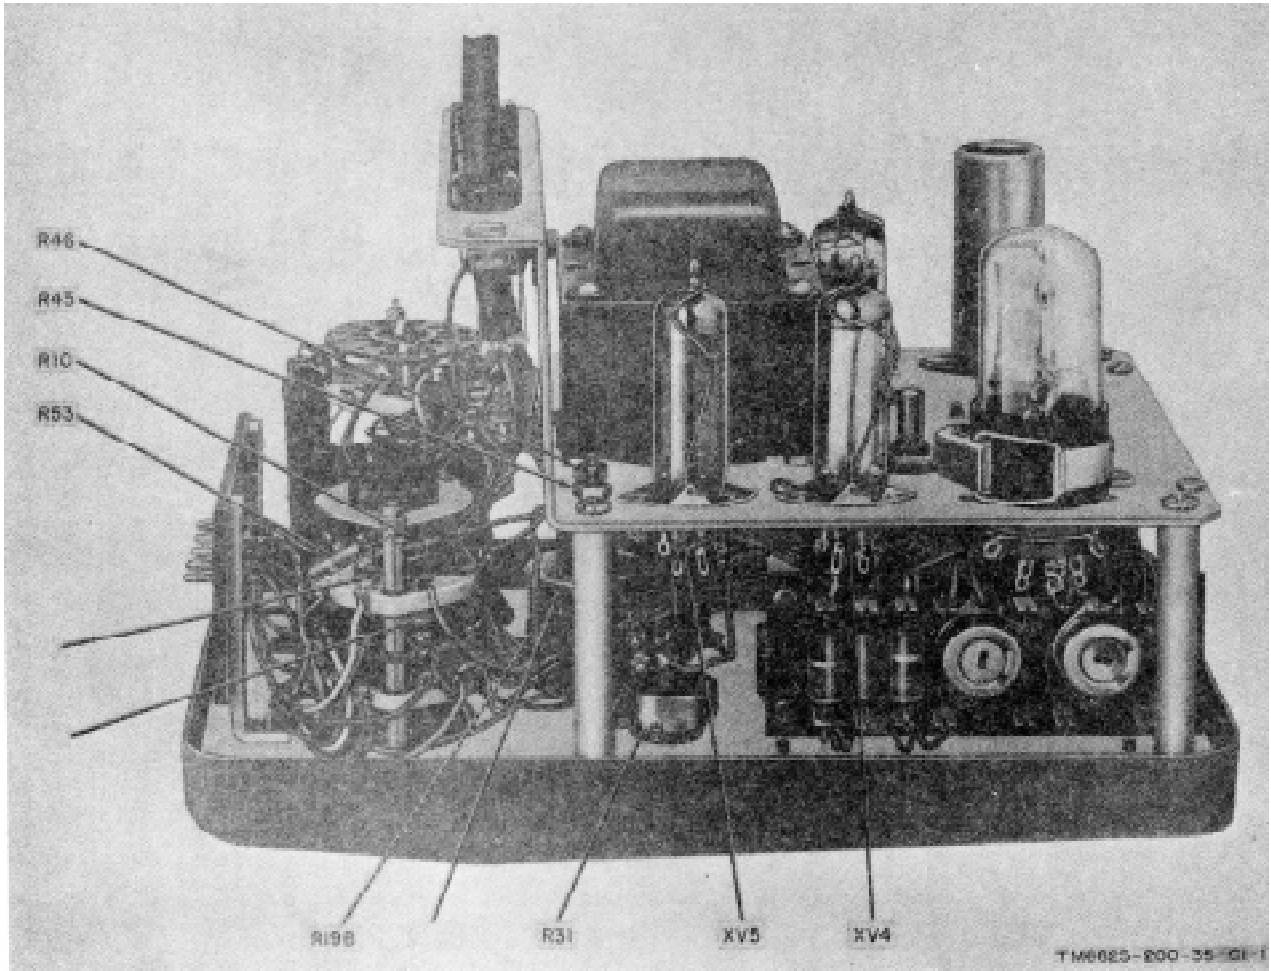

Figure 6-4. Multimeter ME-26AU chassis, left side view.
d. Resistor R23 open.	d. Replace resistor R23 (fig. 6-4 or 6-9).